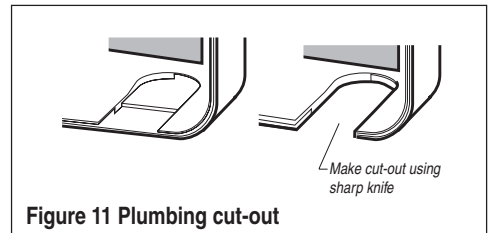

Figure 11 Plumbing cut-out
5.7 Plumbing entry can be from the rear (preferred) or from the bottom. The backplate has a cut out position to suit 15mm pipe. When opting for bottom entry make cut out before fitting backplate to the wall - see Fig. 11.